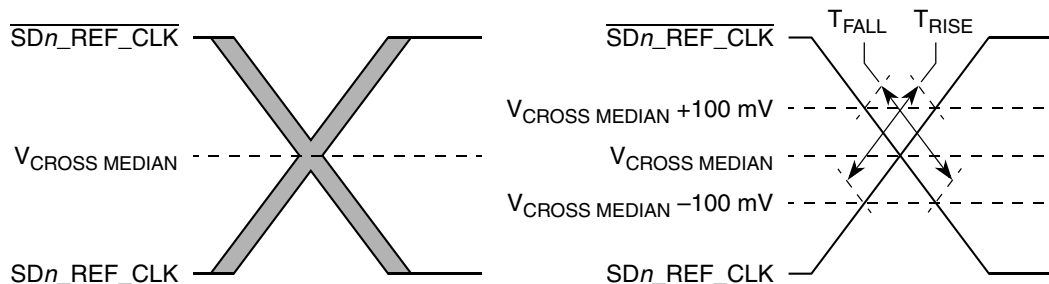

Figure 61. Single-Ended Measurement Points for Rise and Fall Time Matching
4. Matching applies to rising edge rate for SDn_REF_CLK and falling edge rate for SDn_REF_CLK . It is measured using a 200 mV window centered on the median cross point where SDn_REF_CLK rising meets SDn_REF_CLK falling. The median cross point is used to calculate the voltage thresholds the oscilloscope is to use for the edge rate calculations. The Rise Edge Rate of SDn_REF_CLK should be compared to the Fall Edge Rate of SDn_REF_CLK , the maximum allowed difference should not exceed 20% of the slowest edge rate. See Figure 61.